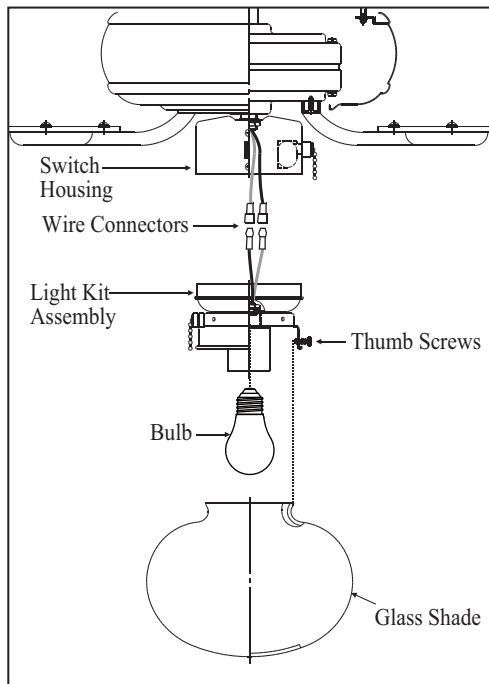

Figure 20
2. Carefully push all wires back into the switch housing, then install the light kit assembly onto the switch housing with 3 screws provided. Be sure to tighten all screws. (Fig. 20)
3. Install 60 watt (Max.) medium base bulb (not included). (Fig. 20)
4. Mount the glass shade to the light fixture by unscrewing partway the thumbscrews on the glass holder, insert the glass, then gently tighten the thumbscrews by hand evenly to the glass. DO NOT OVER TIGHTEN. (Fig. 20)